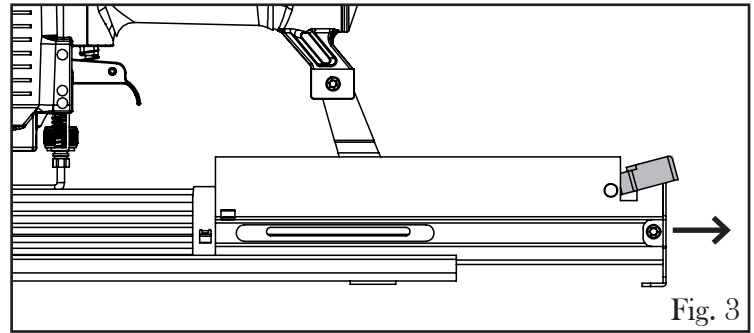

Fig. 3
LOADING THE FASTENERS (Figs. 3 to 6)
1. Depress the magazine lock and pull out the movable magazine fully (Fig 3).